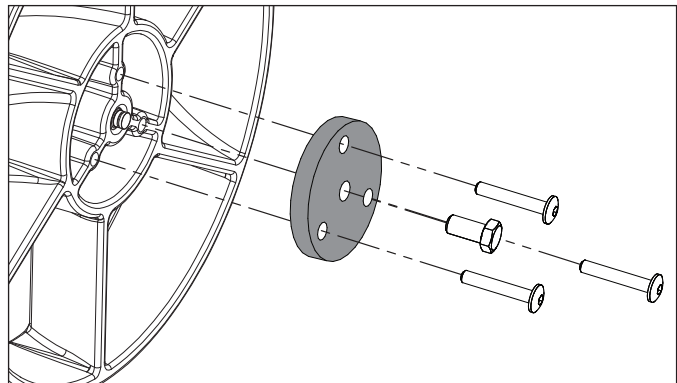

FIGURE 9.4
1. Pass the 6mm socket head screws through the service puller plate and thread them into the three holes on the flywheel. (Figure 9.4)
2. Thread the 10mm bolt through the center of the service puller plate and seat it firmly against the hub shaft. (Figure 9.4)